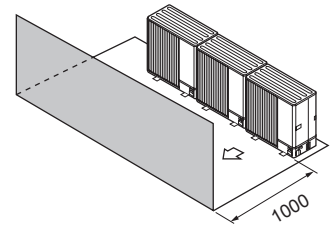

Fig. 4-32
- ③ Obstacles at front only (Fig. 4-32)